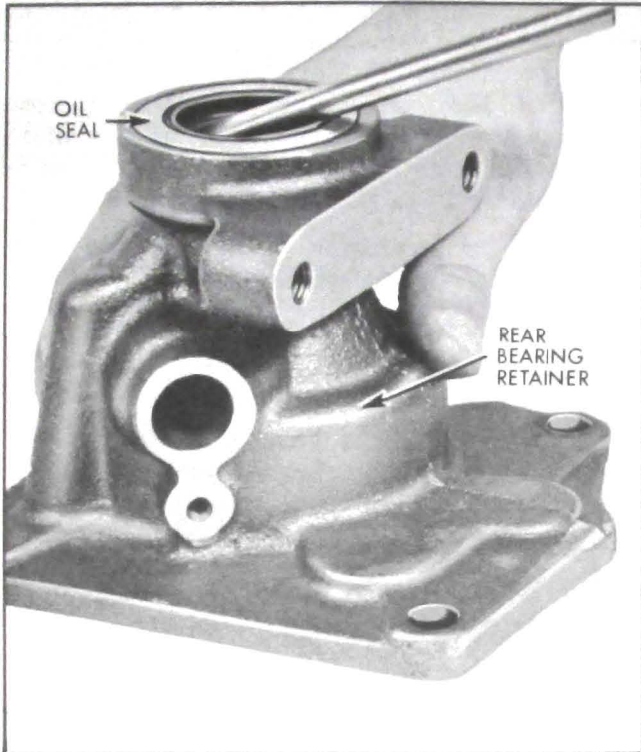

Figure 4-13—Removing Rear Bearing Retainer Oil Seal
4. Remove rear bearing retainer and gasket. Remove speedometer worm gear from main shaft. Pry oil seal from retainer. See Figure 4-13.